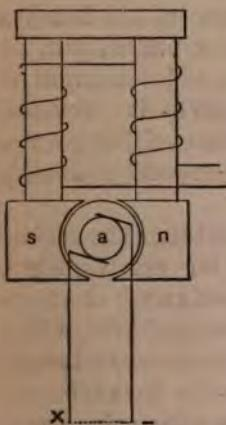

Fig. 1.—Separate Excitation.
and sometimes compound-wound. The diagram (Fig. 1) is intended to show the disposition of the wire upon the separately excited machine. *x* represents the extremities of the field magnet coils, which are connected direct to the exciting machine; *a* shows the armature, commutator, and brushes, the current from which is led off as + - into the main wires of the lighting circuit.
*Connections of the Dynamo.*—In erecting new dynamos the connecting of the field coils to the circuit of the armature, or otherwise, is sometimes a difficult point. It will first be necessary to ascertain exactly what type of machine the dynamo is represented to belong to. If a series-wound dynamo, a separately excited, or a shunt machine, the connection can be ascertained by reference to Figs. 1, 2, 3, p. 3. But certain symbols are generally used to distinguish the extremities of the wires and the terminals. Thus, + and −, positive and negative, are widely used to indicate the “feeding” and “receiving” ends of a coil, or terminals. White (or bright) terminals are also used for +, or positive, and black terminals (representing earth) for −, or negative. The terminals are frequently spoken of as live or leading for positive, and return or earth for negative. In connecting up a dynamo two positives are never connected together, nor two negatives.